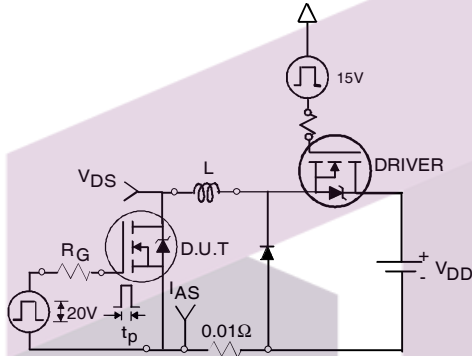

Fig 12a. Unclamped Inductive Test Circuit
| I_{AR} | Avalanche Current | See Fig.12a, 12b, 15, 16 | A |
3. Equation below based on circuit and waveforms shown in Figures 12a, 12b.